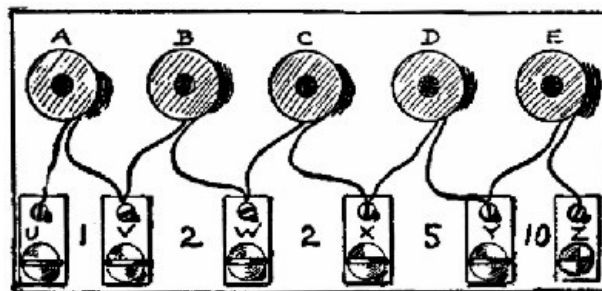

Fig. 106.
**233. Resistance Coils.** Fig. 106. The construction of one coil is given in App. 131. To have the set of coils so that they can be easily used, place the spools upon a base which, in the model, is  $8\frac{1}{2} \times 4 \times \frac{7}{8}$  in. The spools are  $1\frac{3}{4}$  in. apart, center to center, and should be glued to the base. Fig. 106 is a plan of the apparatus. U, V, etc., are binding-posts like App. 46. The figures between them show how many Ohms resistance there are in the coil above. The coils A, B, C, D, and E are wound respectively for 1, 2, 2, 5 and 10 Ohms.
234. *Connections.* If you join a Wheatstone's bridge, for example, with U and V (Fig. 106), the resistance added will be but 1 Ohm; if you join with U and W, the coils A and B will be in the circuit and make 3 Ohms resistance; if V and X, 4 Ohms; if V and Y, 9 Ohms; if U and Z, the whole, or 20 Ohms.